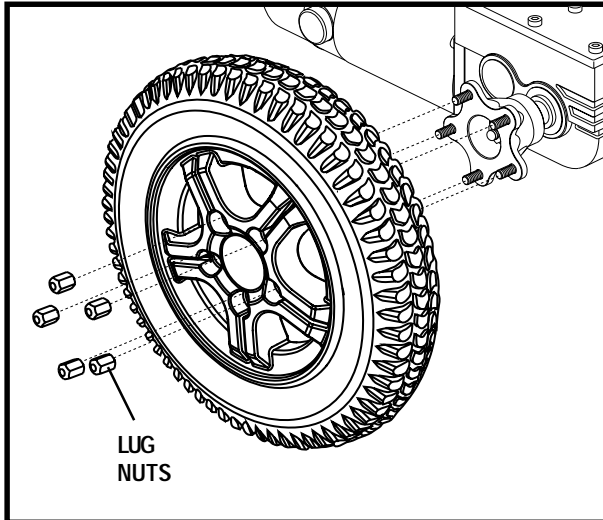

Figure 30. Drive Wheel Removal
4. Remove the five (5) lug nuts from the wheel hub. See figure 30.